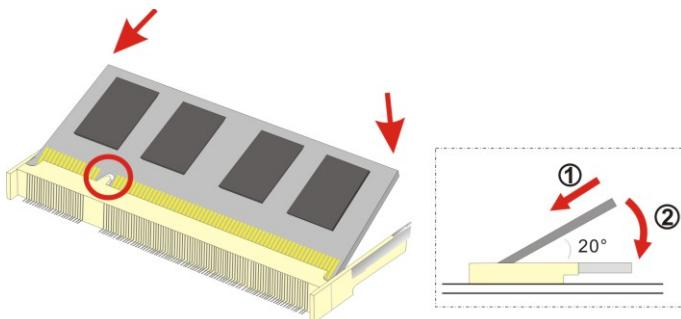

Figure 4-1: SO-DIMM Installation
To install a SO-DIMM, please follow the steps below and refer to **Figure 4-1**.
Step 3: Insert the SO-DIMM. Push the memory in at a 20° angle. (See **Figure 4-1**)
Step 4: Seat the SO-DIMM. Gently push downwards and the arms clip into place. (See **Figure 4-1**)